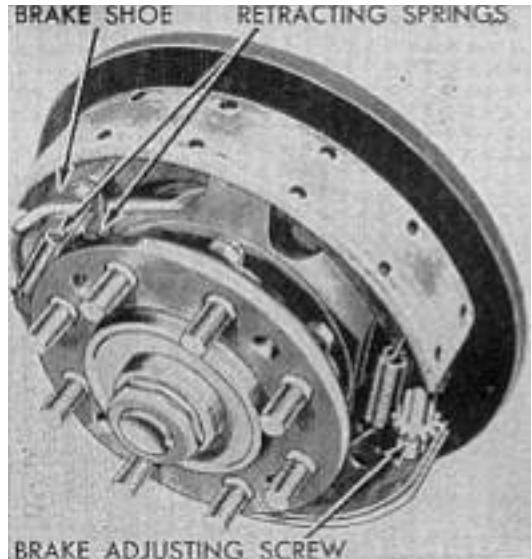

Fig. F071 - Model 8N brake and rear wheel hub. Hub is splined to wheel axle shaft.
90. WHEEL AXLE SHAFT AND BEARINGS. Jack up rear end of tractor and remove the rear wheel and tire assembly. Remove brake drum as shown in Fig. F071 and use a suitable puller to remove wheel hub. Remove bearing retainer stud nuts and pull retainer and brake assembly off axle housing. Pull axle shaft out of axle housing. Wheel axle shaft bearings can be renewed at this time. Reinstall parts in reverse order of removal. Adjust wheel bearings as outlined in paragraph 88A. Tighten axle shaft nut using 450 foot pounds torque and install lock ring. Refer also to Fig. F0-70.
94. Jack up rear end of tractor and remove rear wheels. Remove four brake drum screws and pull drum off shaft (Fig. F071). Remove brake shoe retracting springs and shoes. Reinstall brakes, noting that two brake shoe retracting springs are used on left brake and only one on right brake.